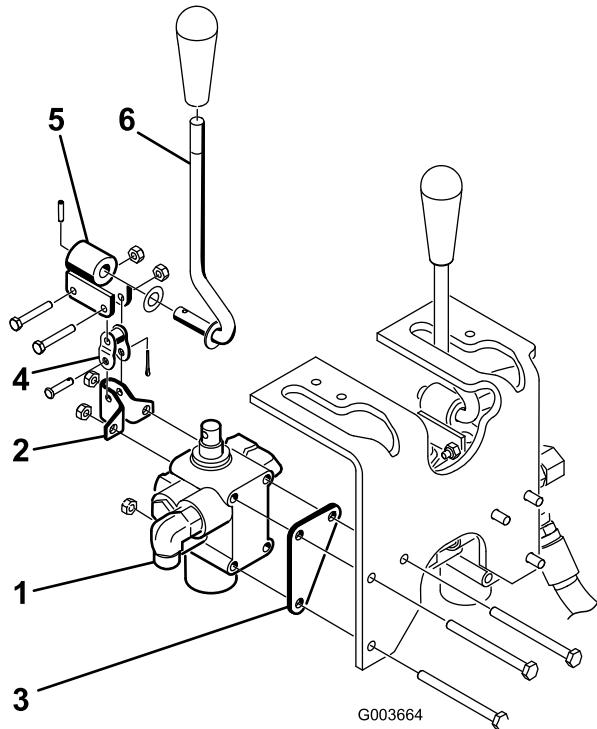

Figure 5
2. Mount the valve assembly, pivot bracket and valve plate to the frame with 3 bolts (1/4 x 3 inches) and 3 locknuts (Figure 5). Position the valve plate against the front of the frame member when mounting. Torque to 90-110 in-lb.
3. Loosely mount the pivot lever assembly to the valve spool and to the offset link with 2 bolts (#10 x 1-1/4 inch) and 2 locknuts (Figure 5). Do not tighten at this time.